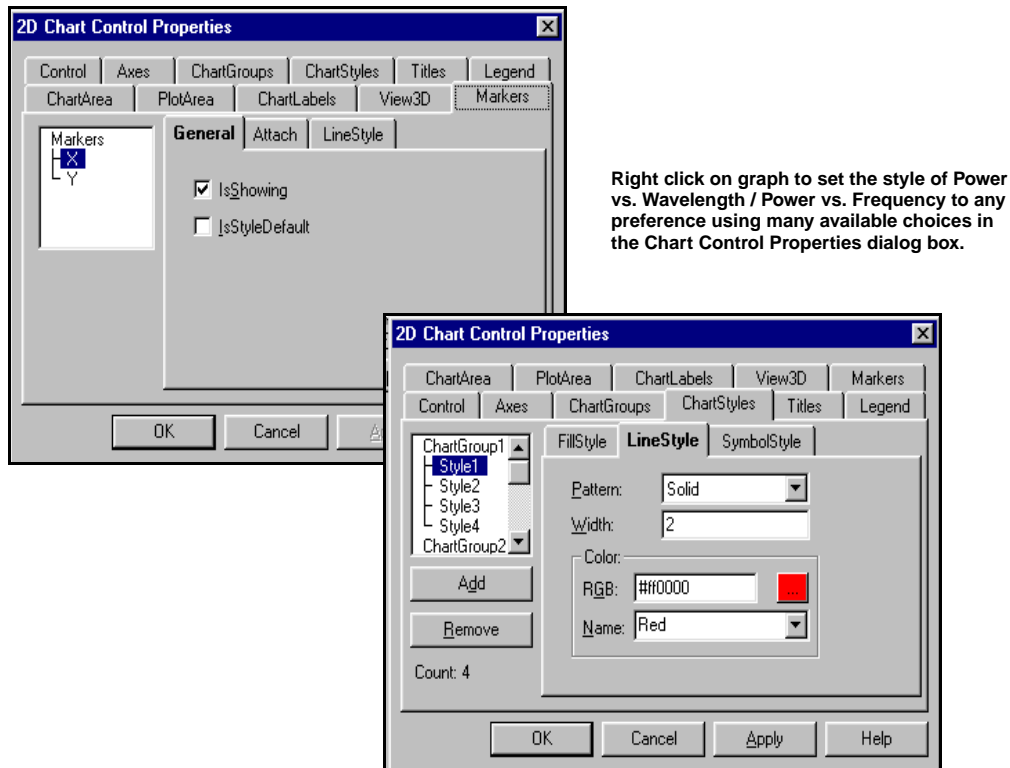

Figure 2-36. Chart Control Properties Dialog Box Sets Graphical Style Preferences
- The user may also change the properties of the graph such as the X and Y axis scale, colors, and grids by right mouse clicking on the chart area (see Figure 2-36). A dialog box shows parameter choices.